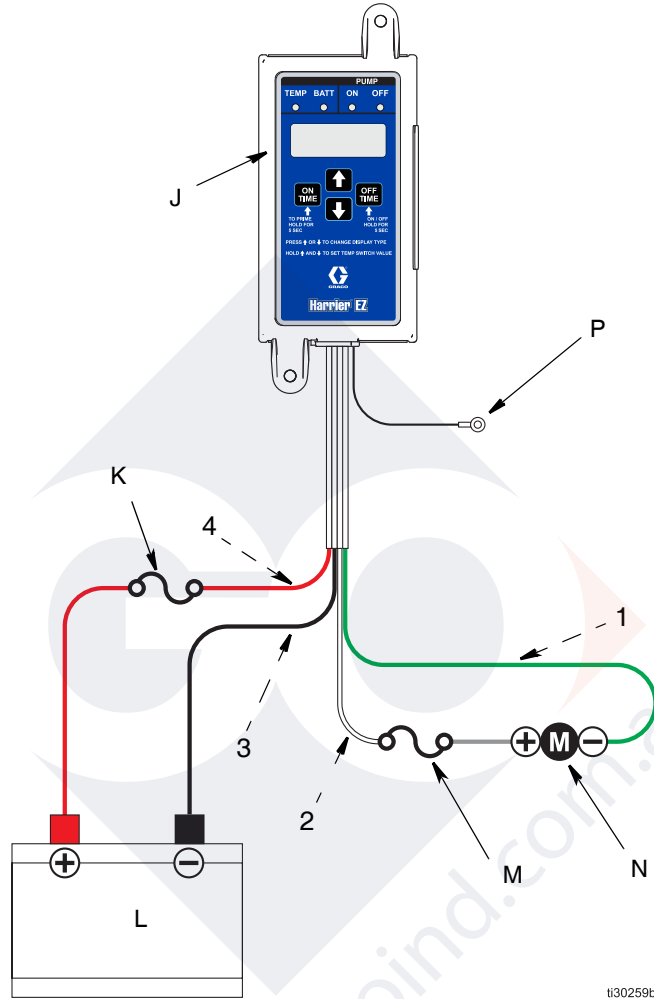

FIG. 2 Typical Installation and Wiring
FIG. 2 is an example of a Harrier EZ chemical injection controller installation. Your installation may differ from what is shown here. The controller (J), with wiring, is supplied by Graco. All other components are supplied by the customer. Contact your Graco distributor for assistance in planning a system to suit your needs.